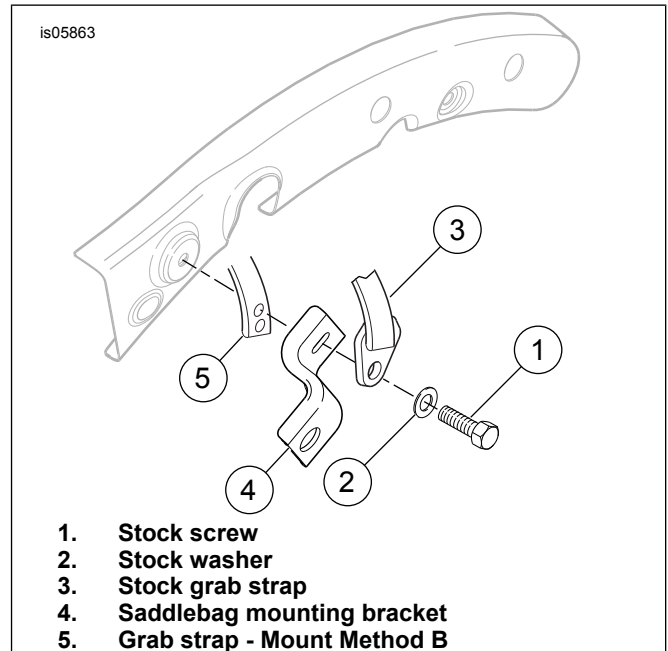
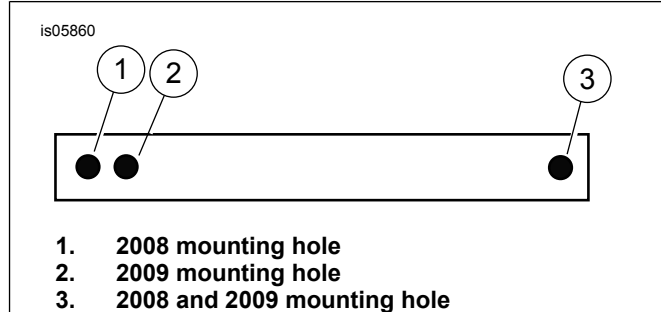

Figure 1. 2013 and Earlier: Remove Grab Strap and Install Kit 53051-09
Figure 3. Grabstrap for Kit 53051-09
2. See Figure 1. Remove the left side screw (1) and washer (2) to remove the bracket (4) and the passenger grab strap (3). Repeat for the right side saddlebag mounting bracket.
1. See Figure 5. Install the grab strap (2) onto the studs as shown in Figure 3. Secure the grab strap to the studs (F) with nuts (E). Tighten.
4. See Figure 1. Install the grab strap (5) behind the saddlebag mounting bracket (4). Use the grab strap mounting holes as shown in Figure 3.